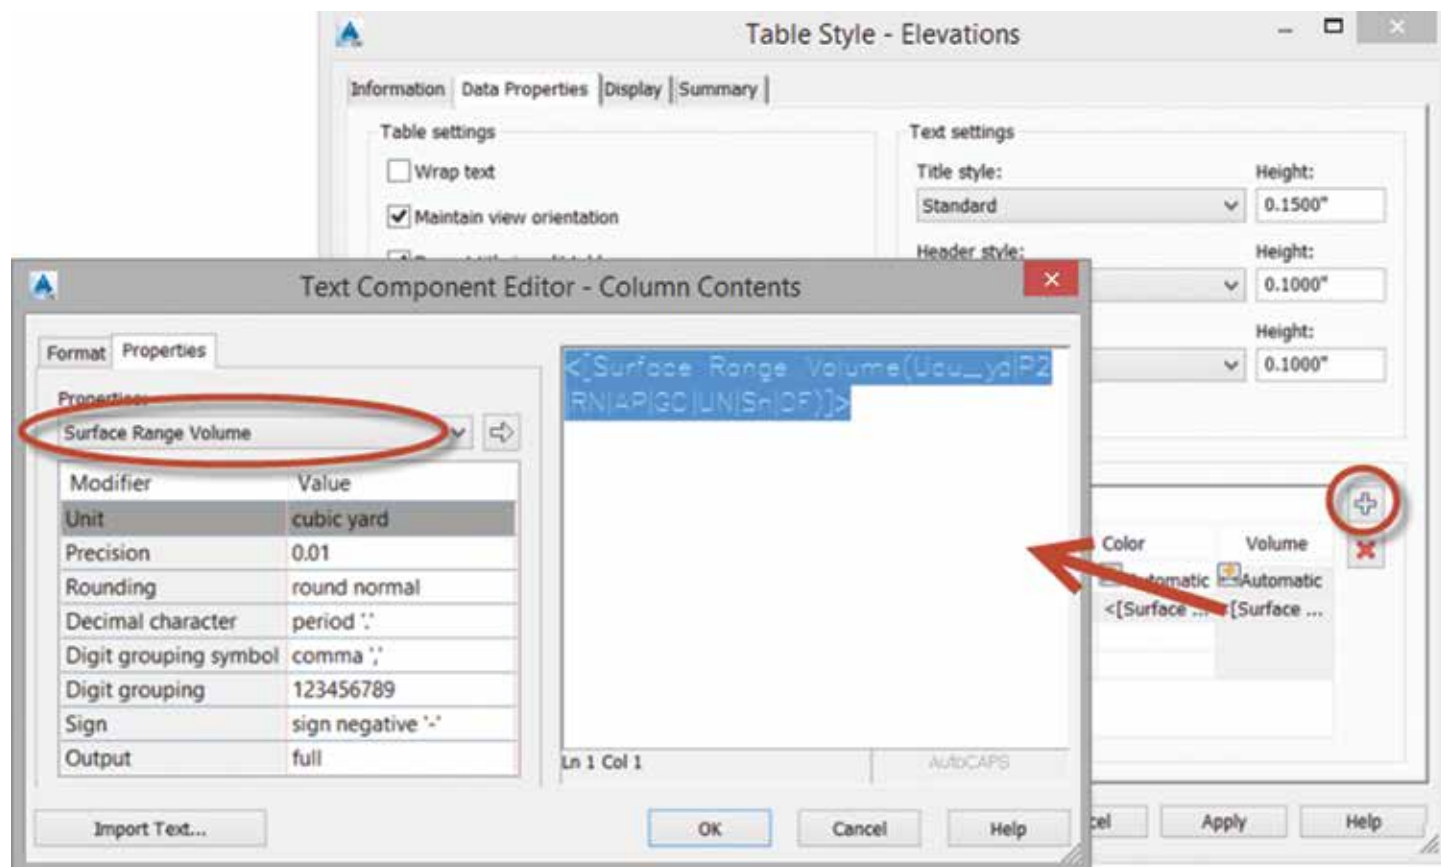

Figure 6: Table contents
4. In the new column, double-click the Column Value field to add the Surface Range Volume property to the table, as shown in Figure 6.